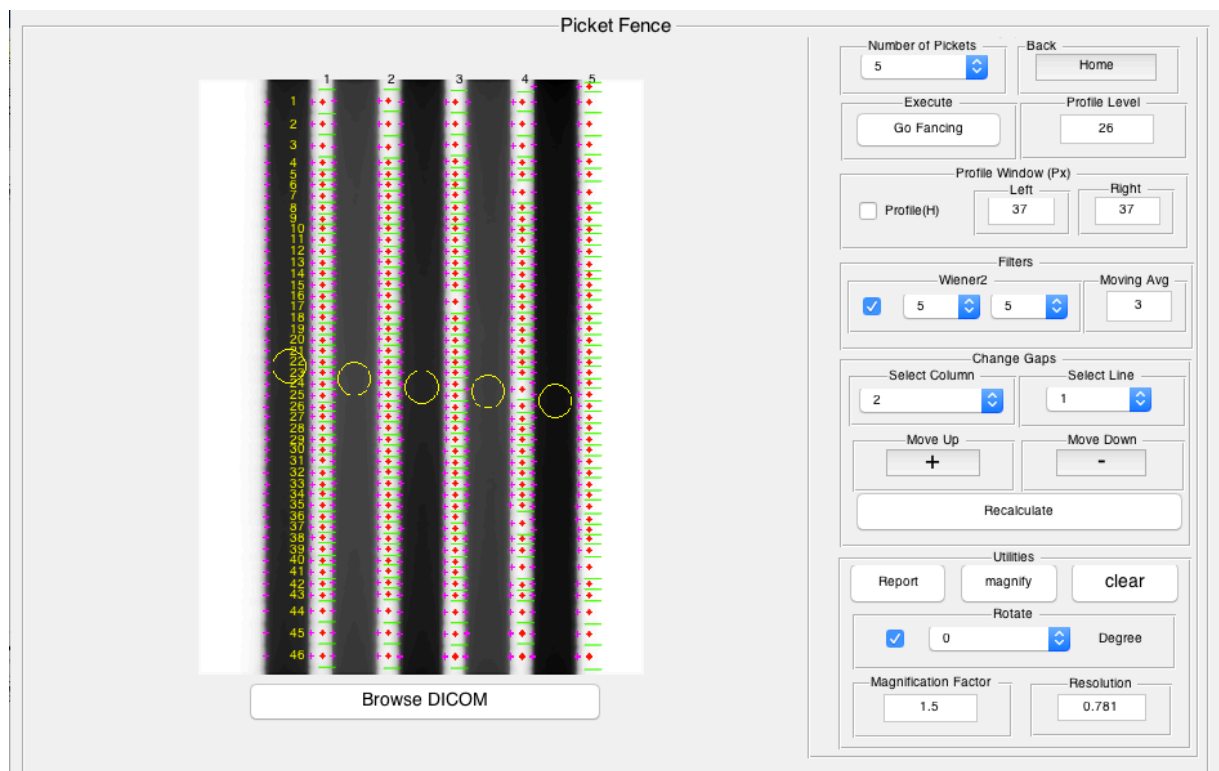

Fig. 6: Picket fence analysis.
5. Click ‘Go Fencing’. A cursor will appear. Choose the pickets one by one from left to right. The user must click the horizontal centers of the pickets as shown in the figure 6. The yellow markers show the chosen centers of the pickets. QALMA will finish the analysis by detecting the leaf position and edges. The gaps are located using the green lines and the position of the leaves are shown using red ‘*’. Couple of figures will be opened. Unless Profile (H) and Profile (v) is checked, please wait till the figures close by themselves.
If you are using QALMA for the first time for your system, you might need to adjust the parameters, in case the default parameters could not generate expected result (fig. 6).
Expected results might not be achieved due to the existing noise on the image depending on the quality of the imaging system. The user is expected to try different values of Weiner2 and moving average filters until desired result is achieved (fig. 6).